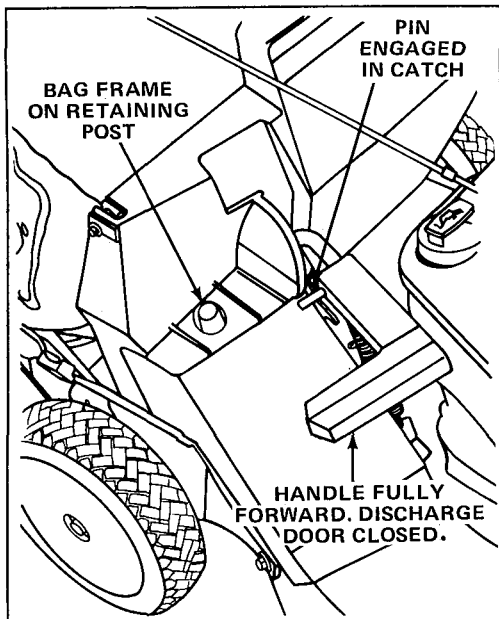

Figure 12
2. Assure discharge door handle is fully forward and pin is engaged in catch (Fig. 12).
3. **INSTALLING BAG**—Slide hole in bag frame onto retaining post on discharge tunnel (Fig. 12) and set rear of bag frame onto lower handle.
5. EMPTYING BAG—Stop engine and wait for all moving parts to stop. Raise discharge door handle and move it forward to engage the locking pin with catch (Fig. 12). Grasp handles at front and rear of bag and lift bag off mower. Gradually tip bag forward to empty clippings.